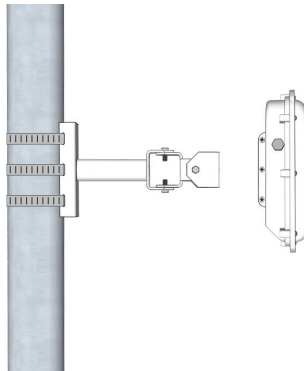

Figure 1.3 - Attaching the Sensor to the Mount Bracket
- 3 Thread on the nuts and tighten (see Figure 1.3).